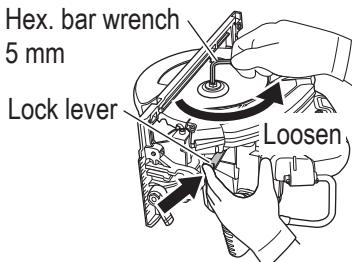

Fig. 13
(1) Depress the lock lever, lock the spindle, and remove the hexagonal flange bolt and washer (B) with the hex. bar wrench 5 mm. (Fig. 13)